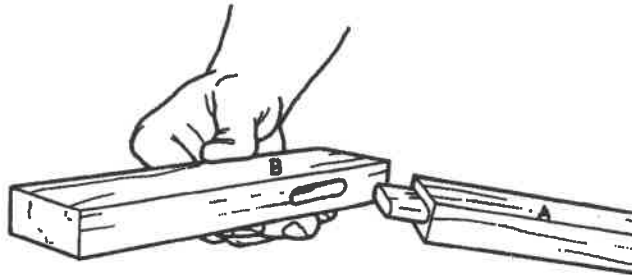

Fig. C-16
21. Use a file, rasp or chisel to slightly round off the tenon's edges to match the mortise— or use a chisel to square up the mortise to match the tenon. See Fig. C-16.